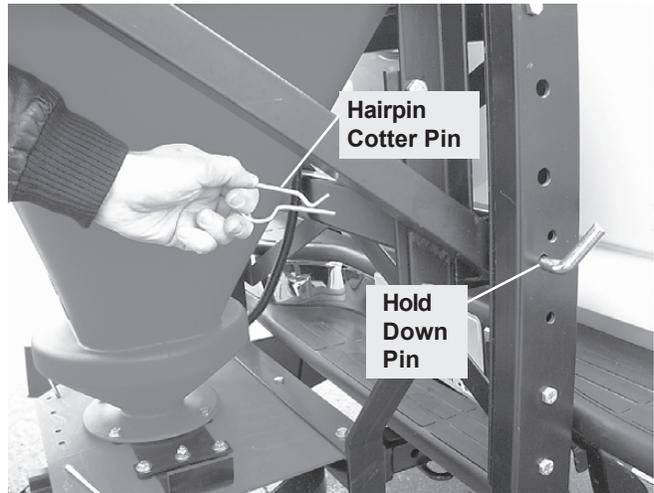

Figure 11
3. Insert hold-down pins on each side and secure with hairpin cotter pins. (See Figure 11.)